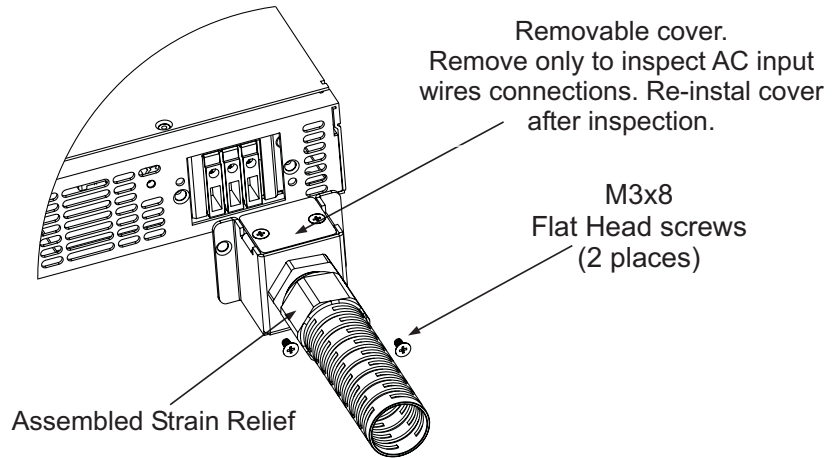

Fig.3-3: AC input cover and strain relief, 2400W models
5.Route the wires inside the cover to prevent pinching. Fasten the cover to the unit using the M3x8 Flat Head screws are provided. Strain relief cover could be opened for inspection. Refer to Fig.3-3 for details.